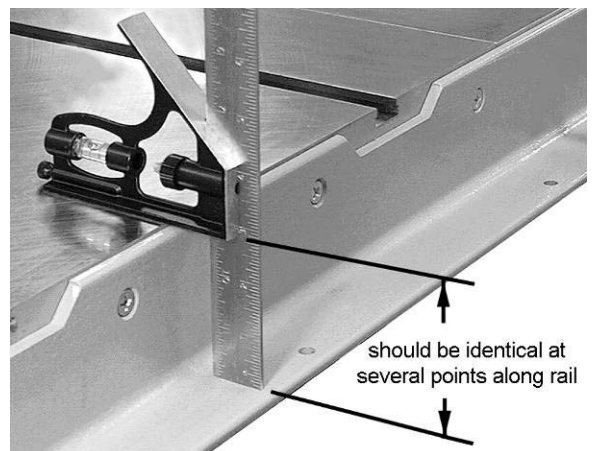

Figure 24
4. The *front rail* must be parallel to the table top in order for the *Accu-Fence* system to function properly. Place an adjustable square on the table as shown in Figure 24.